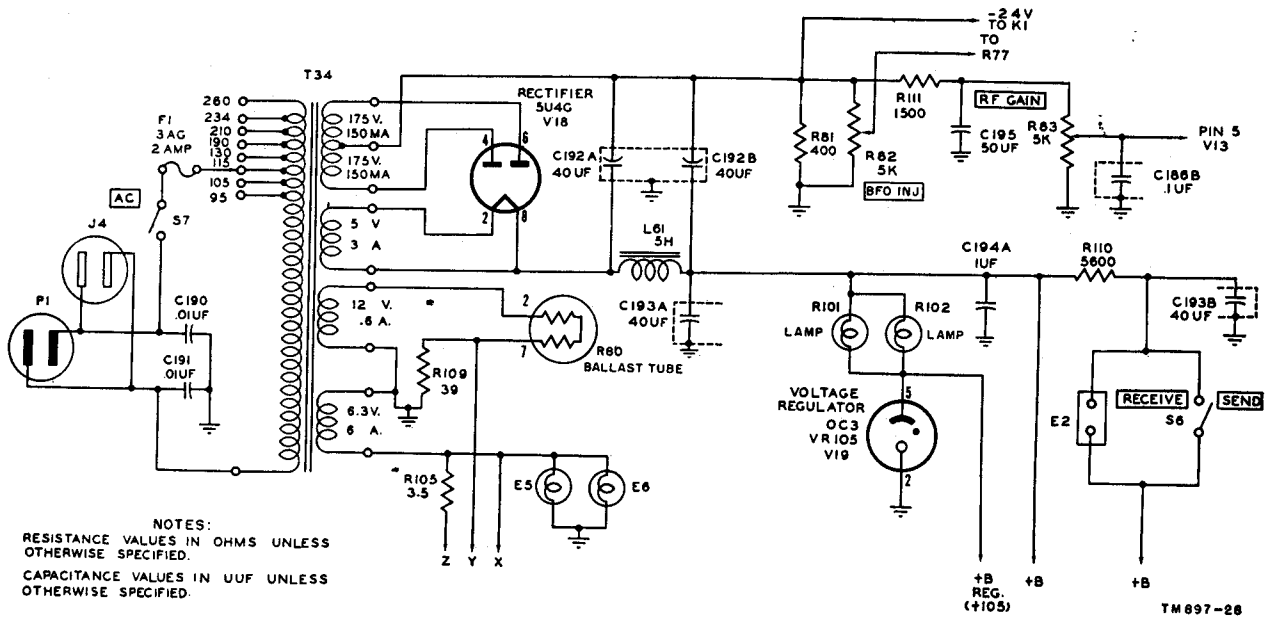

Figure 28. Radio Receiver R-274/FRR, functional diagram of the power supply.
a. The power supply provides d-c plate and bias voltages and a-c heater voltage to all the circuits previously described. The simplified circuit is shown in figure 28.